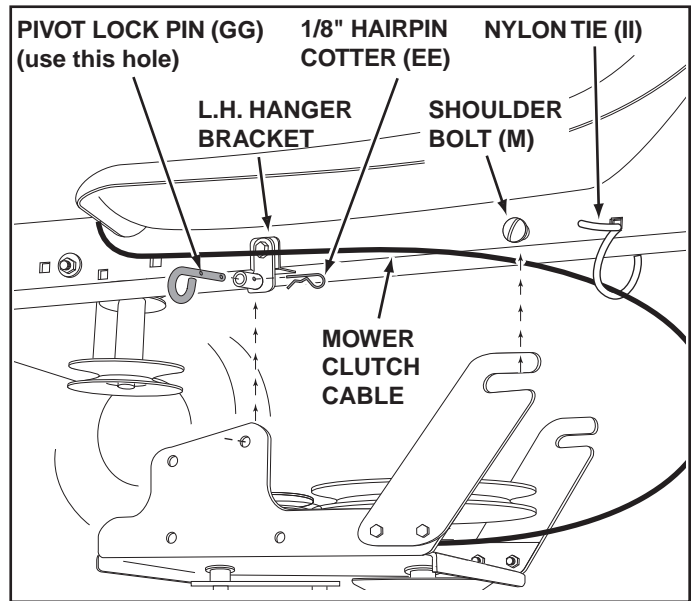

FIGURE 12 VIEWED FROM LEFT SIDE
**STEP 12: (SEE FIGURE 12)**
- Attach the clutch/idler assembly to the tractor frame. Hook the notched suspension arms onto the two shoulder bolts (M) assembled to the outside of the tractor frame. Lift the front of the assembly and attach it to the R.H. and L.H. hanger brackets using two pivot lock pins (GG) and 1/8" hairpin cotters (EE).
- Loosely attach the mower clutch cable to the left side of the tractor frame with a nylon tie (II). **Do not pull** the nylon tie completely tight. The cable may need to be removed from the nylon tie when using the mower deck.